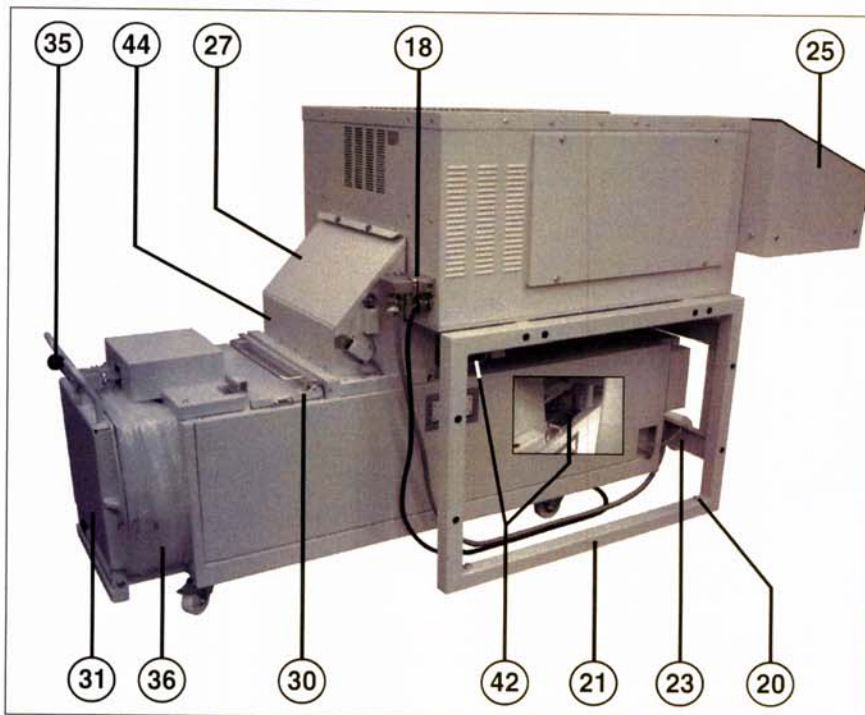

fig. 2
6. Compensate for unevenness in the floor with the levelling screw (20) (fig. 2).
ASSEMBLY OF THE COMBINATION (fig. 2 and 3):
1. Push the baler under the shredder. Screw the shredder and the baler together with the aid of the two fixing brackets (42) provided with the shredder (fig. 2).
4. Insert and secure the connecting plug of the baler in the electrical outlet (18) at the housing rear panel (fig. 2).
- 18 = electrical outlet (fig. 2)
- 20 = leveling screw (fig. 2)
- 27 = cover flap (fig. 2 and 5)
- 30 = inlet flap (fig. 2)
- 31 = discharge flap (fig. 2)
- 35 = locking lever (fig. 2)